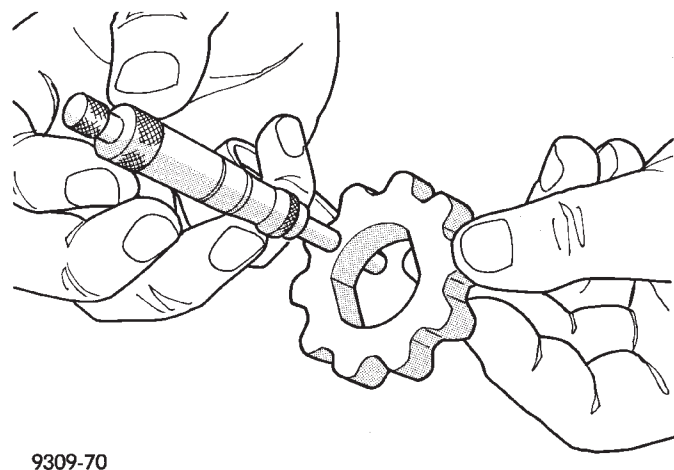

Fig. 115 Measuring Inner Rotor Thickness
(4) If inner rotor measures 14.299 mm (0.563 in.) or less replace inner rotor (Fig. 115).